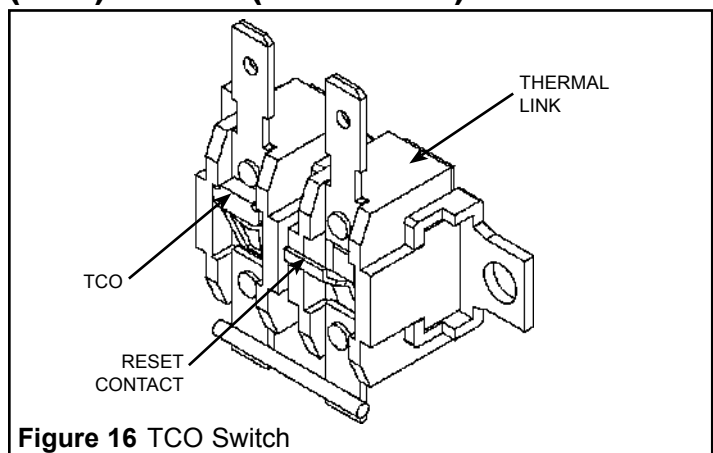

Figure 16 TCO Switch
3. Manually press the contact located on the front-right side of the TCO switch (see Figure 16) until a click sound is generated. Do not use a metal tool or a screwdriver to press the TCO switch contact.